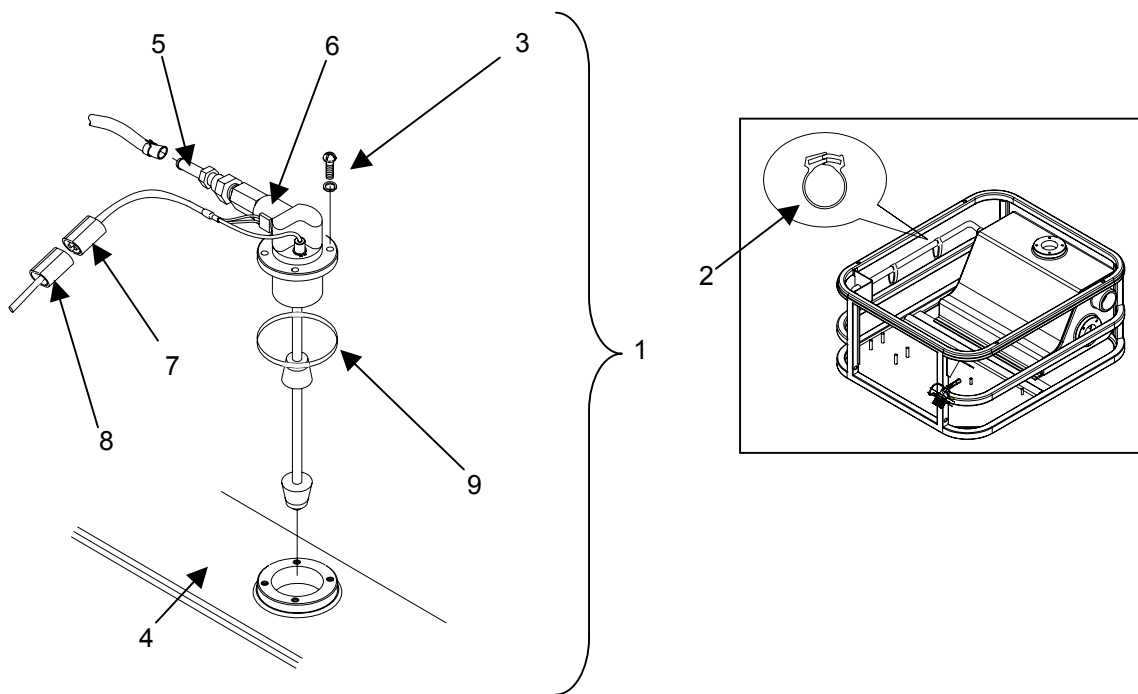

Figure 5. Replace the Vent Valve Assembly
1. To replace a vent valve assembly (**figure 5, item 1**) remove the reflective heat shield assembly as described in WP 0026 00.
2. Remove nylon retainer clips from the fuel line assembly (**figure 5, item 2**).
3. Remove four cross tip screws (**figure 5, item 3**) securing vent assembly to fuel tank (**figure 5, item 4**).
4. Remove fuel line from fitting (**figure 5, item 5**).
5. Remove fitting (**figure 5, item 5**) from vent valve assembly solenoid (**figure 5, item 6**) using wrench.
6. Disconnect power lead (**figure 5, item 7**) from harness (**figure 5, item 8**).
7. Remove vent valve assembly (**figure 5, item 1**) from fuel tank (**figure 5, item 4**).
8. Discard old O-ring (**figure 5, item 9**).
9. Lubricate the new O-ring (**figure 5, item 9**) with clean fuel, and install.
10. Place new vent valve assembly (**figure 5, item 1**) into position in fuel tank (**figure 5, item 4**).
11. Install four cross tip screws (**figure 5, item 3**) holding vent valve assembly to fuel tank (**figure 5, item 4**).
12. Install fuel fitting (**figure 5, item 5**) onto vent valve assembly (**figure 5, item 1**) using wrench.
13. Install fuel line onto fitting (**figure 5, item 5**).
14. Connect power lead (**figure 5, item 7**) to harness (**figure 5, item 8**).
15. Install nylon retainer clips around fuel line assembly (**figure 5, item 2**), fuel line (**figure 5, item 5**), and power lead (**figure 5, item 8**).